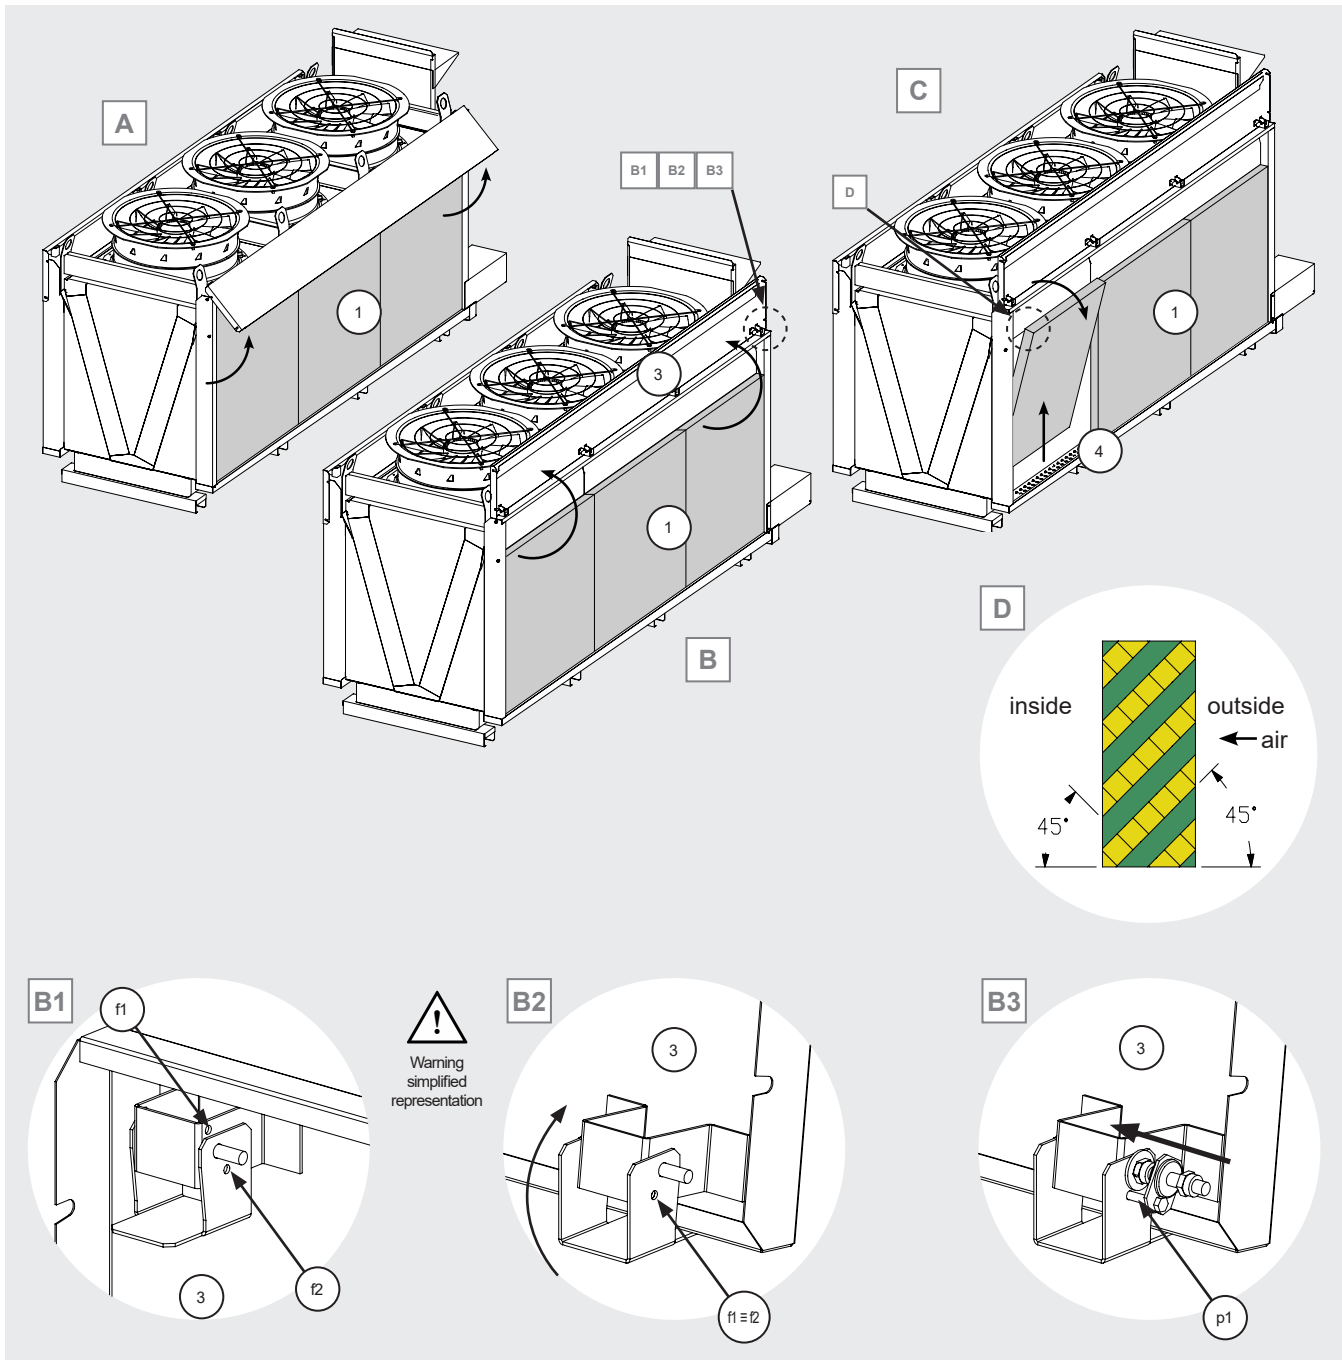

Figure 20
12.11.8 Lift up the cover (3) of the nozzle compartment. See Figure 20 A and B. Pay attention to the details in Figure 20 B1, B2, B3. Figure 20 B1 and Figure 20 B2 are simplified for explanatory purposes. Observe Figure 20 B1: a hinge at the end of the cover (3) is equipped with a system that prevents the cover (3) from closing accidentally. The hinge has two holes (f1) and (f2). Turn the cover (3) until the two holes match, as shown in Figure 20 B2. Now insert the pin (p1) into the two holes and lock the cover (3) in place. Before working on the model, ensure that the cover (3) is firmly in place and cannot close accidentally. Danger of hitting your hands or head.
12.11.9 Pull out the outer panels (1): lift them vertically out of the lower guide (4) and then pull them outwards. See Figure 20 C. Pay attention to the installation orientation of the panels, see Figure 20 D.